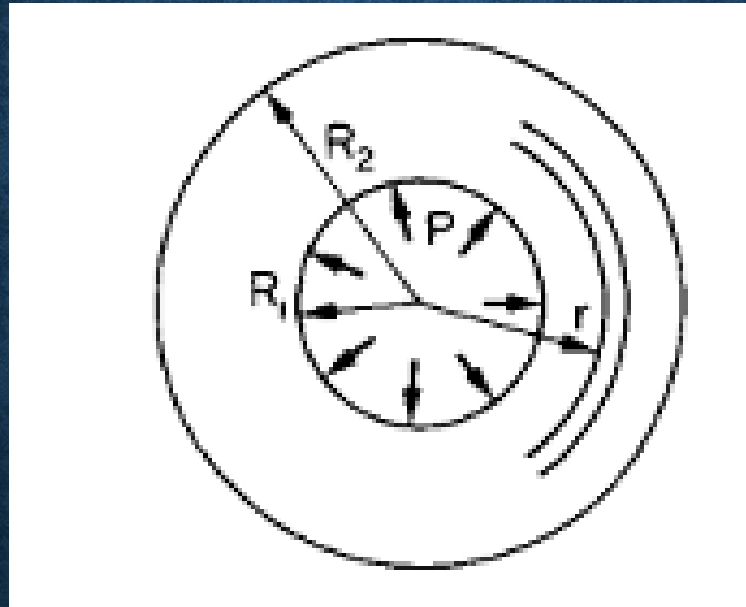

Figure 9: Cylinder cross section
- Consider now the thick cylinder shown in Figure 9 subjected to an internal pressure P , the external pressure being zero.